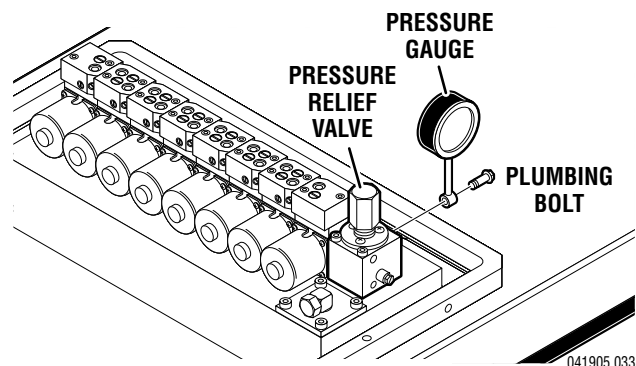

Figure 1-19.
1. Remove the blind cap and attach a hydraulic pressure gauge to the main oil galley using a 6mm plumbing bolt. See figure 1-19.
1. Attach the pressure gauge onto the main oil galley as shown in figure 1-19.